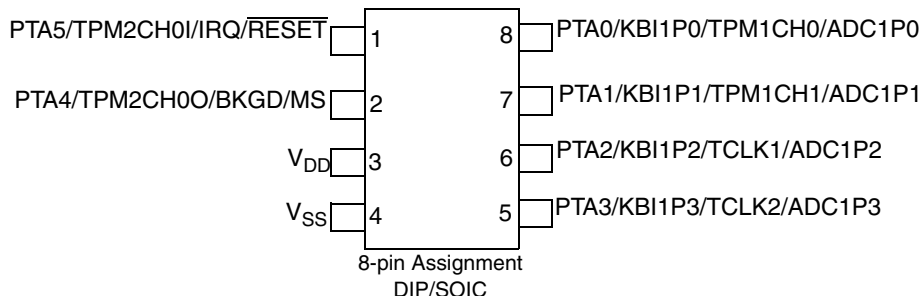
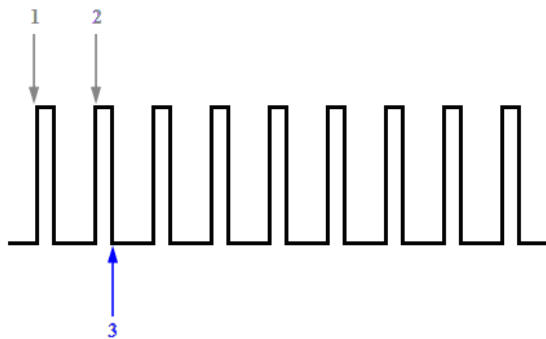

Figure 7. MC9S08QD4 8-Pin Package
Figure 8. Input Signal Data Measurements
The code can take samples of the duty cycle and determine the percentage of the duty. As shown in Figure 7, PTA5 can be used with the TPM module configured as input capture. In this mode, the TPM2CH0I detects in rising-edge and falling-edge of all the changes of the input signal (Figure 8). These changes are stored as variables and then are calculated to produce the duty cycle. For details see the MC9S08QD4 Data Sheet.
2. **Check Mode** — This mode calculates the duty cycle of the input signal. The status of this routine is determined by monitoring the Check variable. Avoid using a previously calculated duty cycle. Interrupts are disabled and the TPM2CH0I is configured as input capture with a rising edge. When the code detects the first rising edge it waits for the second rising edge. See Figure 8. After the first rising edge is detected, the TPM2 counter begins counting. When the second rising edge is detected the counter stops and the value is read. The Frequency variable is stored and the counter is reset to zero. Counting then begins again. Next, the TPM2CH0I is configured as input capture and falling edge while waiting for the third point. See Figure 8. When the third point is detected, the counter stops. This value is read and then stored in Duty_Cycle_H variable.